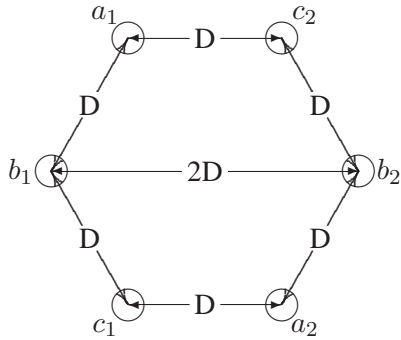

FIGURE 43
4.12. The conductors of a double-circuit three-phase transmission line are placed on the corner of a hexagon as shown in Figure 43. The two circuits are in parallel and are sharing the balanced load equally. The conductors of the circuits are identical, each having a radius r . Assume that the line is symmetrically transposed. Using the method of GMR , determine an expression for the capacitance per phase per meter of the line.